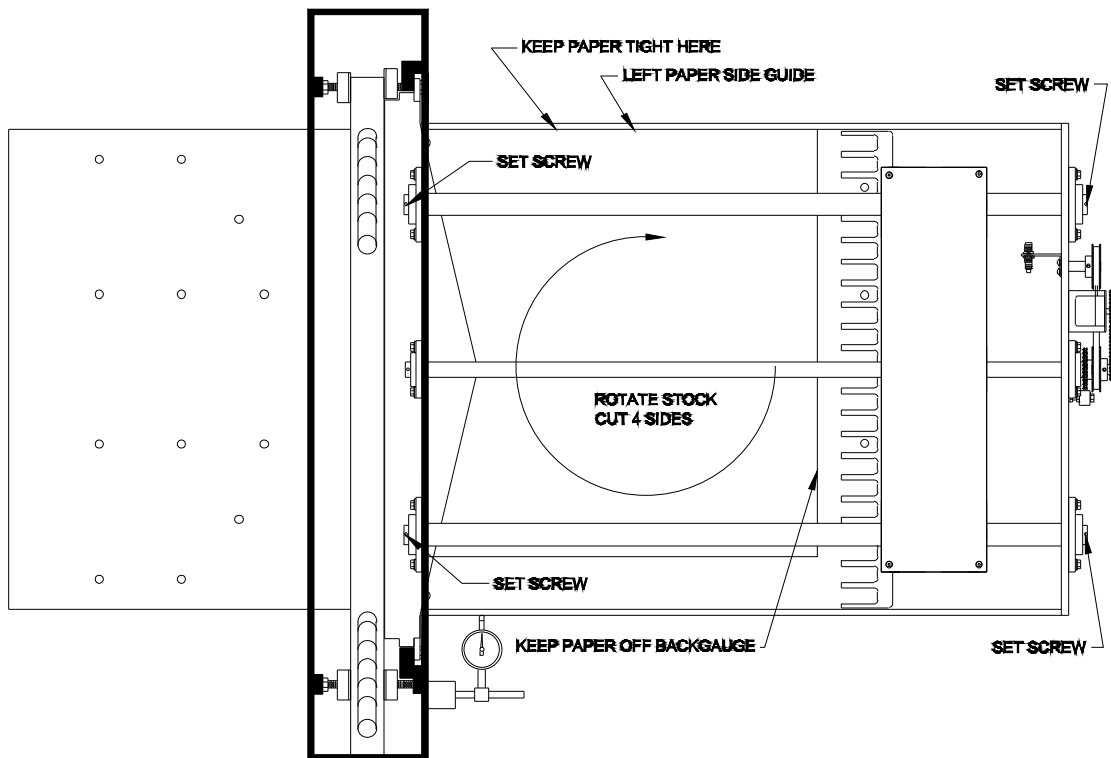
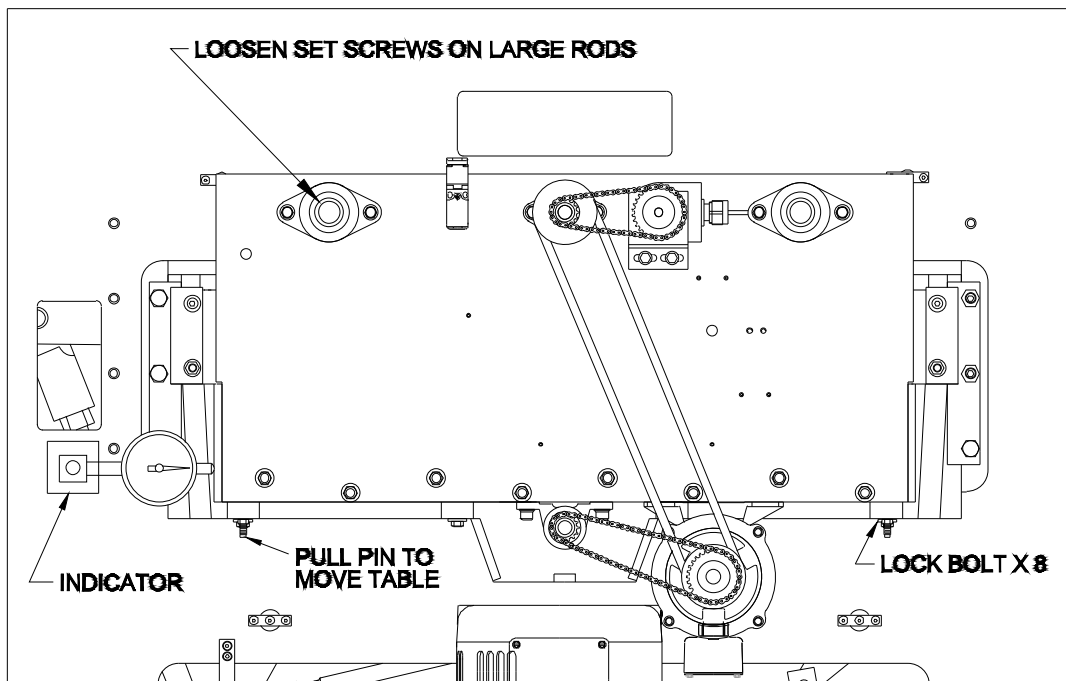

Fig 33
Fig 35
3. Trim approximately 1/8" off all four (4) sides of the stack. Make sure your last cut is across the longest side of the stack. When trimming make sure the stack is jogged to the left side plate and not touching the backgauge. Always turn the stack clockwise after each cut insuring the trimmed edge is to the left side plate before the next cut. Fig. 33.
6. If the middle stack is short on the right side then swinging the rear of the table to the right is needed. Remove the table pin on the right side of the table. Fig. 35. Loosen the eight (8) table lock bolts under the table. Loosen the four (4) set screws on the large guide rods. Use a dead blow hammer or a hammer and a block of wood to move the table. A dial indicator must be used to record from "0" the measurement made + or -. See Fig. 33 for dial indicator placement.
7. Tighten the eight (8) bolts and the four (4) set screws. Repeat steps 2 through 5. If the three (3) stacks are even, then the table is square to the knife.
8. If the middle stack is short on the left side then swinging the rear of the table to the left is needed. Remove the table pin on the right side of the table. Fig. 35. Loosen the eight (8) table lock bolts.
Loosen the four (4) set screws on the large guide rods. Use a dead blow hammer or a hammer and a block of wood to move the table. A dial indicator must be used to record from "0" the measurement made + or -. See Fig. 33 for dial indicator placement.
9. Tighten the eight (8) bolts and the four (4) set screws. Repeat steps 2 through 5. If the three (3) stacks are even, you can verify the sheet is straight by folding a sheet in half. This is not as accurate as using the three (3) stacks.
This adjustment will make the guide rods parallel to the left rear side plate and level with the table surface. It is important to square cut paper first as described in Fig. 33 page 38, and 39 above. This adjustment is not necessary at installation. If the table is removed check the adjustment shown in Fig. 33 page 38, and 39, then follow the Guide Rod Adjustment procedure.